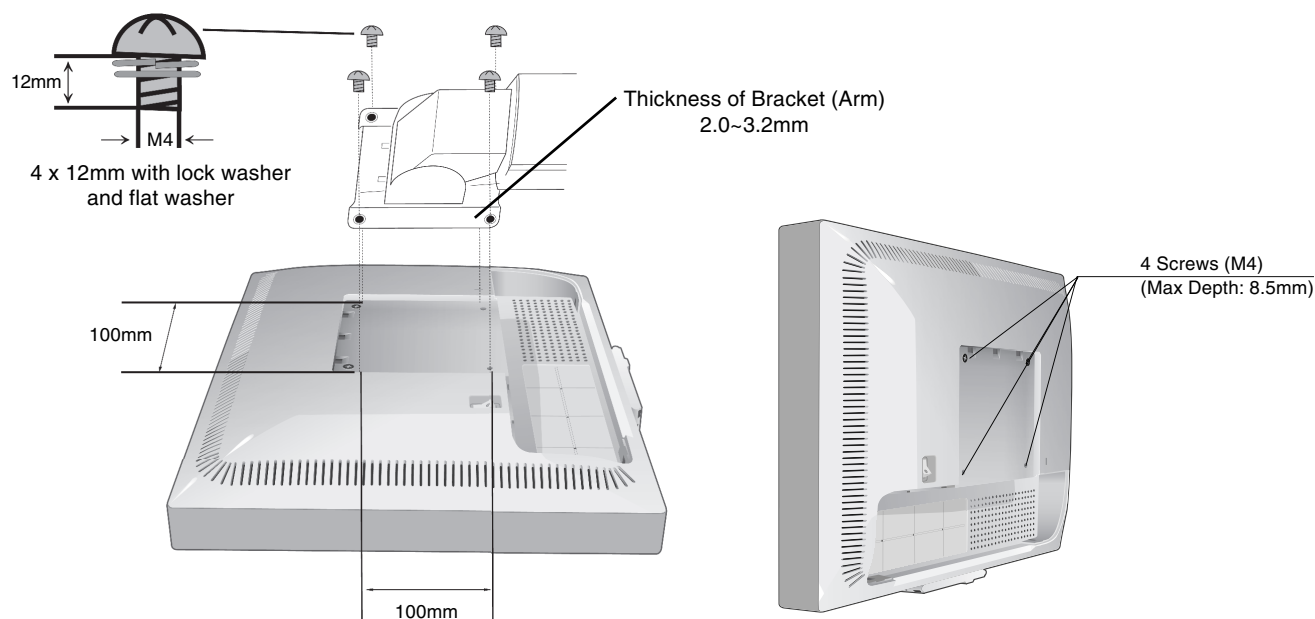

Figure F.1
2. Use the 4 screws to attach the arm to the monitor (**Figure F.1**).